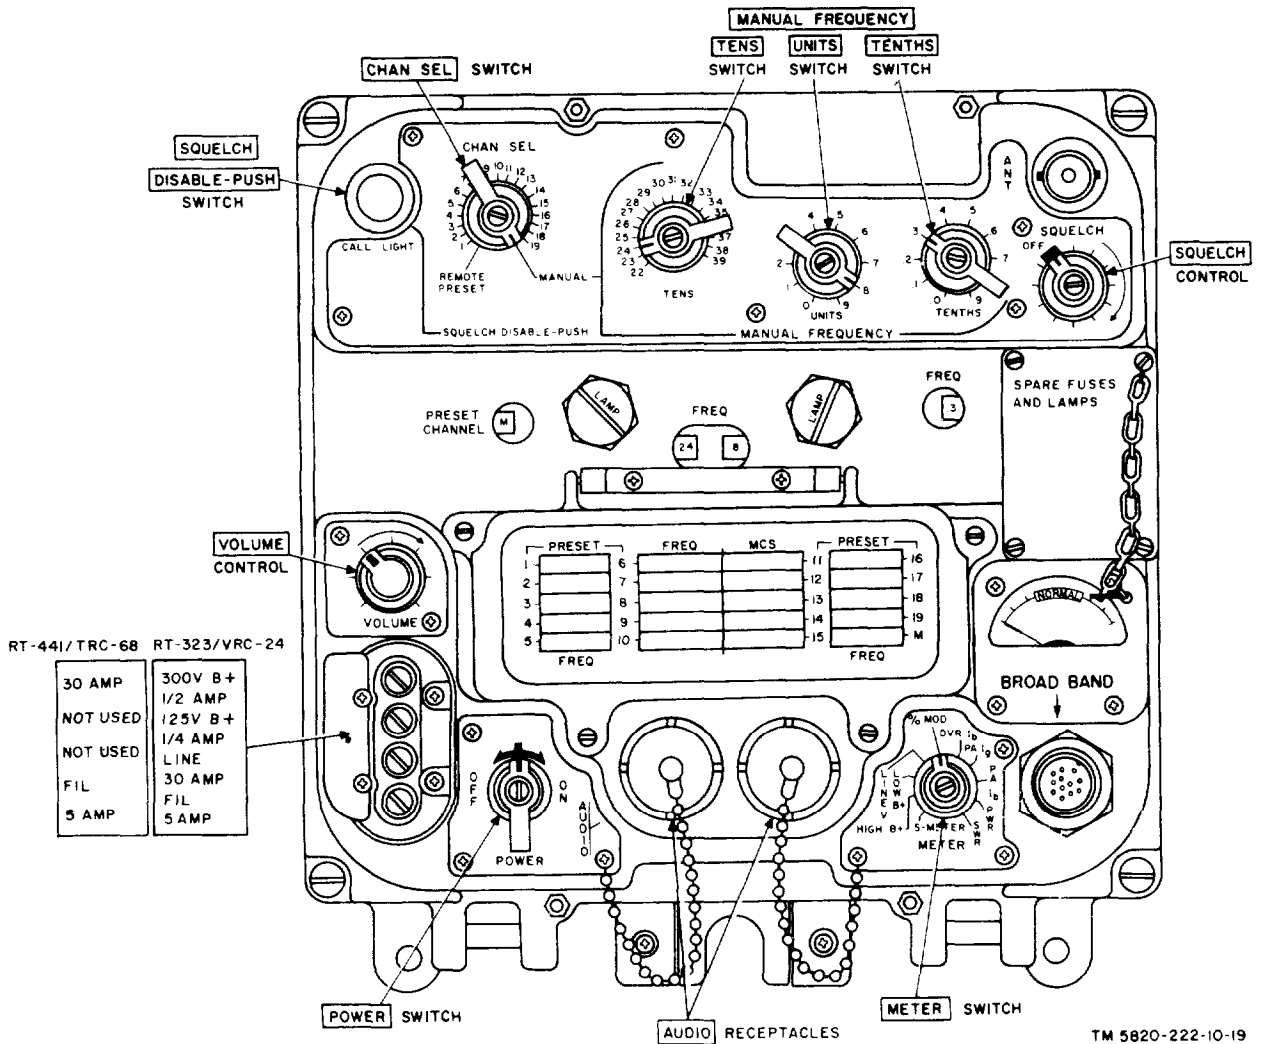

Figure 14. Receiver-Transmitters RT-323/VRC-24 or RT-441/TRC-68, controls, indicators, and receptacles.
20. Controls and Indicators, RT-323/VRC-24 and RT-441/TRC-68 (fig. 14)
- (1) At the receiver-transmitter, use the VOLUME control to adjust the loudspeaker or headset output (fig. 14).
- (1) Incorrect setting of switches and controls.
- (2) Power cable or signal cords disconnected or poorly connected.
b. *Procedure* (fig. 14).
- (1) Connect the headset or loudspeaker and the microphone to the AUDIO connectors.
- (2) Set the METER switch to the S-METER position.
- (3) Turn the SQUELCH control to OFF.
- (4) Set the VOLUME control to midrange.
- (5) Perform the steps shown in c below, in the order listed. *All steps refer to both Radio Sets AN/VRC-24 and AN/TRC-68 unless otherwise noted.* They are performed at the receiver-transmitter front panel. If the steps in c below yield normal performance and operation from the remote position is abnormal, the radio set control or connecting cable requires higher echelon repair. Observe equipment operation and perform any corrective measures necessary.